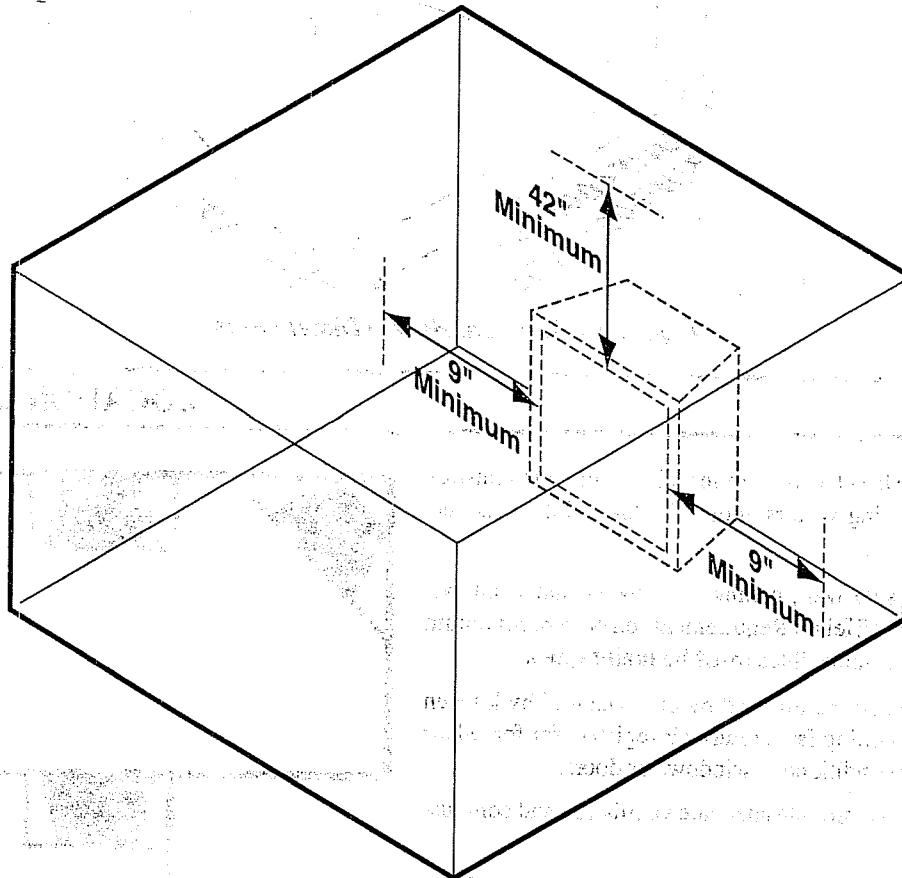

Figure 4- Clearance and Height Requirements
Ensure that minimum clearances shown in Figures 4 through 7 are maintained. Left and right clearances are determined when facing the front of the firebox.
1. **Sidewall clearances:** The clearance from the inside of the appliance to any combustible wall should not be less than 9". See Figure 4.
2. **Ceiling clearance:** The ceiling must be at least 42" from the top of the firebox opening. See Figure 4.